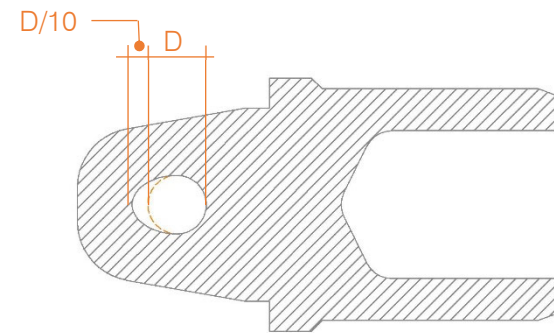

Fig. 62 - Hole Elongation
- 14.5.1 Deformation or elongation of connection holes (rivets, roll pins, holes) in the fittings or the main tubes by more than 10%. E.g. Node Post hole is 17mm dia + 1.7mm = 18.7mm dia. Bending or deformation of any fitting part by more than 10 degrees from the axis of the main tubes. *Fig. 62 - Hole Elongation*